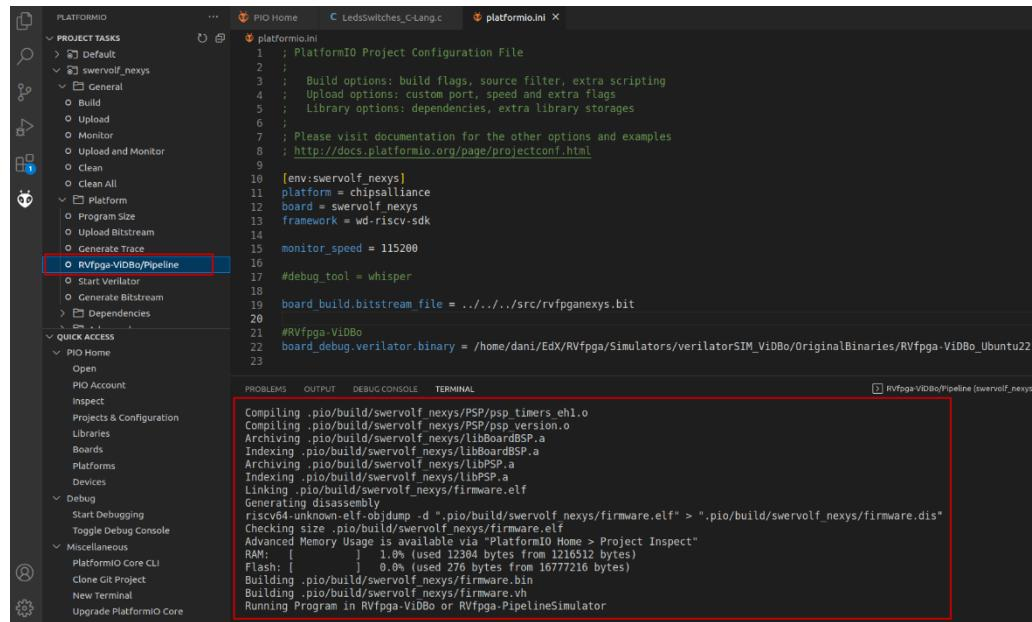

Figure 114. Launching RVfpgaEL2-ViDBo
- Then expand *PROJECT TASKS > env:swervolf_nexys > Platform* and click on **RVfpgaEL2-ViDBo/Pipeline** (see Figure 114). This first compiles the program and then launches the Verilator simulation of the RVfpga SoC running this program.